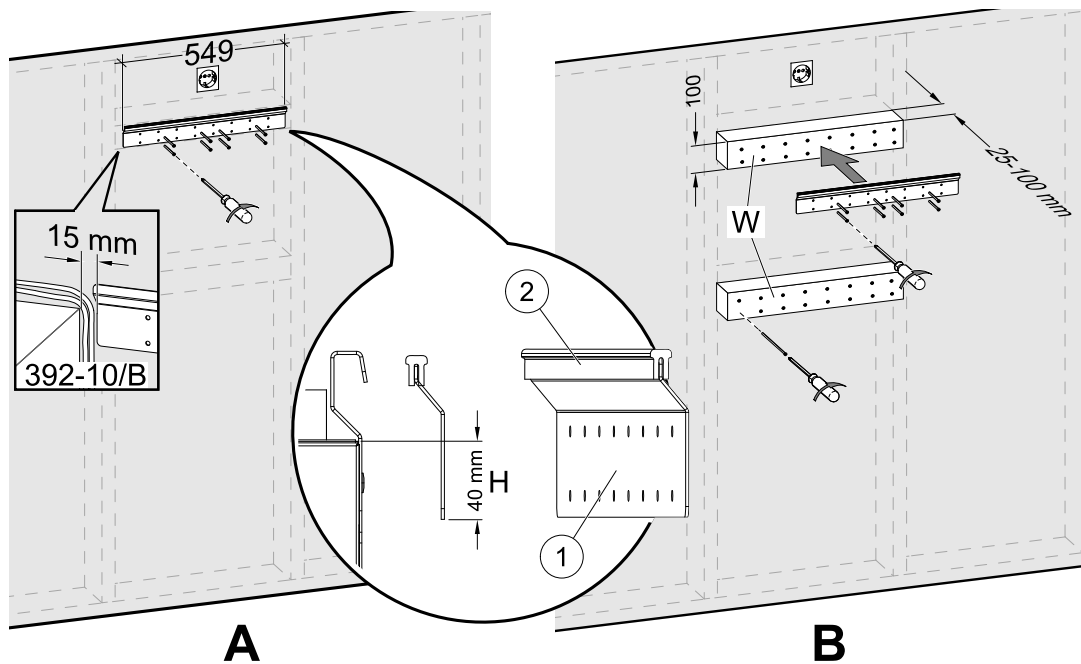

Fig. 10 Installation of mounting bracket without or with wooden blocks
2. Screw the mounting bracket (pos. 1) with the anti-vibration pad (pos. 2) to the wall (figure 10, pos. A). **Screws are not included**, choose them based on your wall type. Use appropriate holes to screw the bracket firmly to the wall. Bottom side of bracket should be 40 mm (H) below top of unit position.
In case the depth of cabinets is much greater than the unit, install wooden blocks (pos. W) to compensate the missing distance (figure 10, pos. B). Then install the mounting bracket on the upper block. Choose thickness of blocks according to your needs.